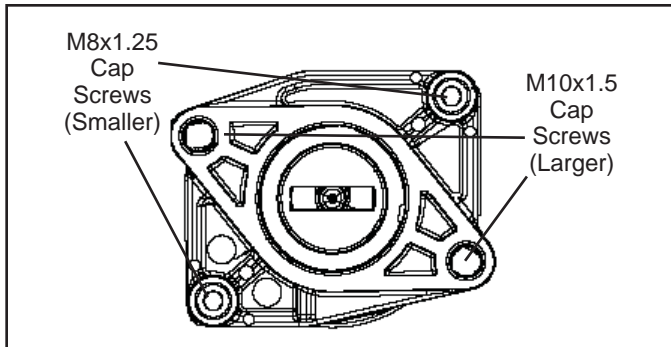

FIGURE 3 - REAR END COVER ATTACHMENT BOLTS
Note: There are 2 M8x1.25 cap screws used to retain the end cover to the crankcase. There are also 2 larger M10x1.5 cap screws (not shown) that are used to retain the auxiliary drive unit (e.g. hydraulic pump) via the end cover and torqued into the crankcase. If the auxiliary drive unit has already been removed, these two cap screws are no longer present on the end cover. Refer to Figure 3 to see location of the cap screws in the end cover.
1. Install the o-ring (A) on the rear end cover.
3. Install the two end cover cap screws. Refer to Figure 3 to assure that the two cap screws are installed in the proper crankcase bolt holes. "Snug" the screws then tighten to 195 to 212 inch pounds (22-24 N•m).